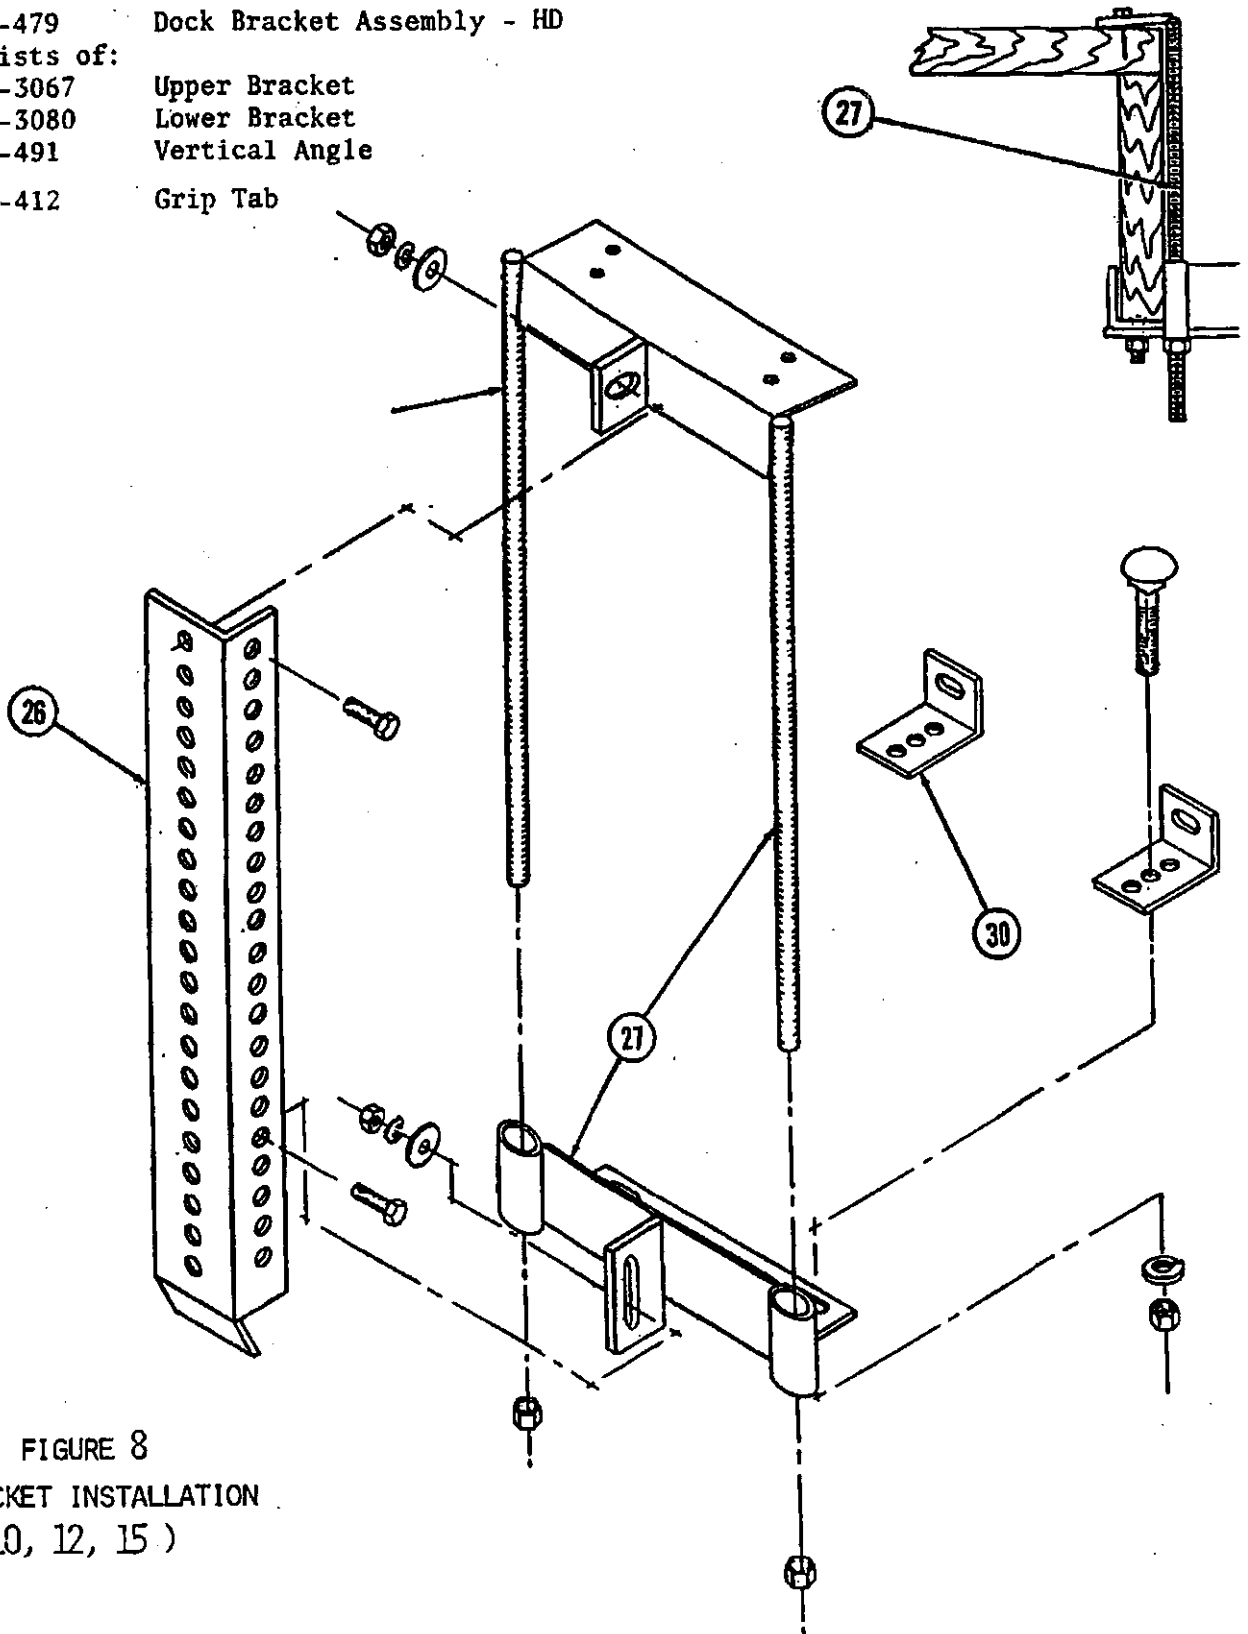

FIGURE 8
4. (ALL) Position the hoist with the rear of the transom pads (21) or the hull support pads (23) even with the mark made in step 2.
6. (ALL) Remove angle (26) or strut (31) from all four dock brackets (27). Retain angle or strut and hardware for reinstallation. (Figure 8, 9)
7. (ALL) Install the four dock brackets using two grip tabs (30) and two 1/2 x 1 carriage bolts, nuts, and lockwashers as shown in figure 8. Tighten the 5/8 inch nuts on the allthread rods snug (one or more dock brackets may have to be moved slightly later).
8. (10, 12, 15) Reinstall the angles (26), removed in step 6, with the beveled end down.